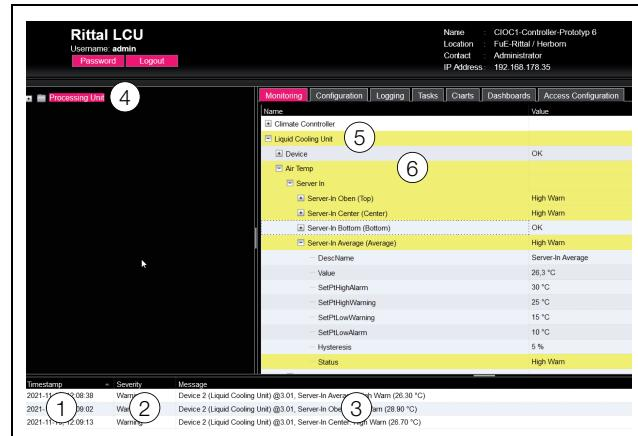

Fig. 32: Layout of message display
1. Timestamp: The date and time when the error occurred (fig. 32, item 1).
2. Severity: Severity of the error. A distinction is made between Warnings and Alarms (fig. 32, item 2).
3. Message: Error message in plain language (fig. 32, item 3).
- Left-hand screen section (navigation area): The symbol in front of the component on which the error occurred is shown in red in the tree view in the event of an alarm message, and yellow in the event of a warning message (fig. 32, item 4).
- Right-hand screen section (configuration area): On the **Monitoring** index tab, the entire component and the specific parameter to which the warning or alarm applies is shown in red or yellow (fig. 32, item 5 and 6).